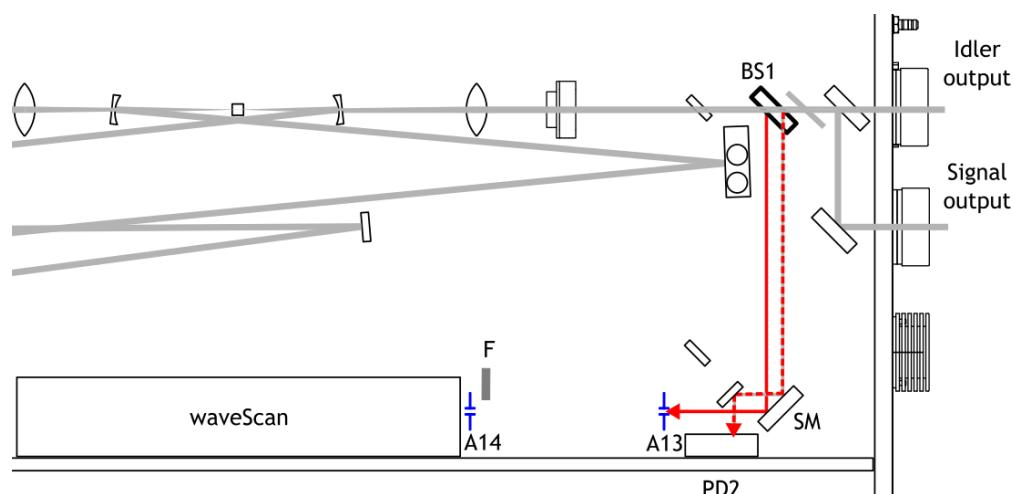

Figure 5.18.: Diagnostic beam alignment - step 1: Align BS1 to center front reflection on A13.
- Turn alignment apertures A13 and A14 in the beam path as shown in Fig. 5.18.